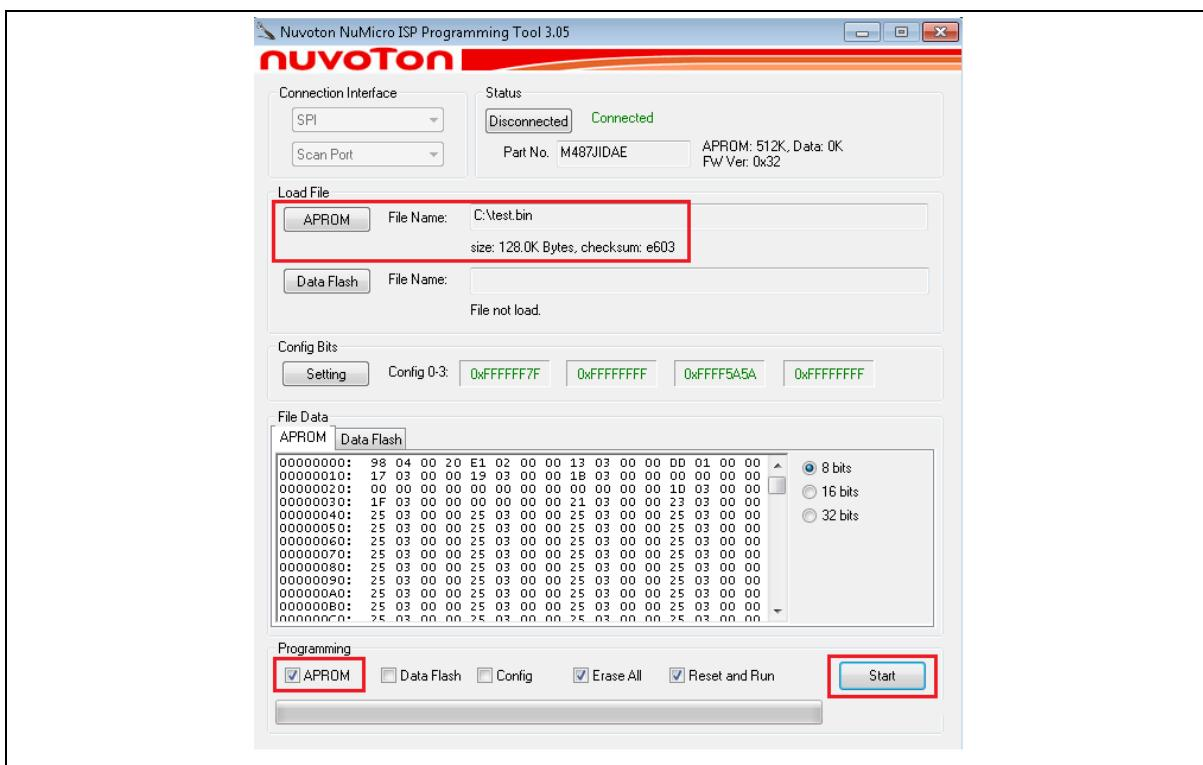

Figure 5.2-53 Program Data to Target Chip with SPI Interface
(11) Load programming file and check the programming option and click **Start** button. ISP Programming Tool start to program file to target chip by user selected connection interface as shown in Figure 5.2-53.